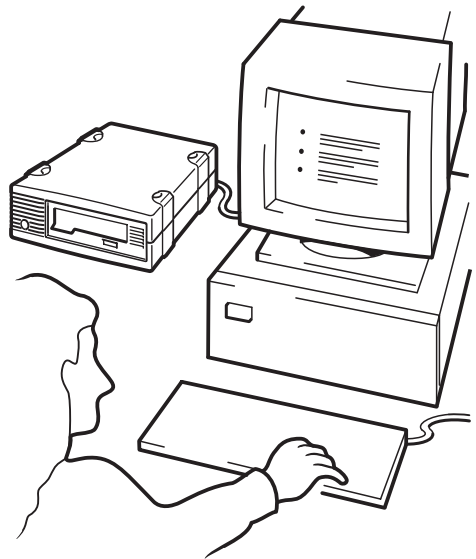

Figure 10d: using HP OBDR, step 4
- 3 Follow the on-screen instructions to set up the operating system (see Figure 10d). These will vary depending upon the backup software. Normally, you can accept the default response to all the prompts, for example, just press <Enter>.